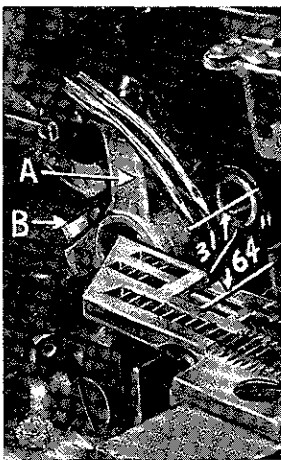

Fig. 4
With throat plate assembled in position, needles should center in the front end of needle slots. When needles are at high position, needle points should be set  $31/64$  inch above throat plate (Fig. 4). To align or set the height above the throat plate, move needle driving arm (A, Fig. 4) by loosening clamp screw (B). Remove throat plate, after needle has been set properly and clamp screw (B) has been tightened.